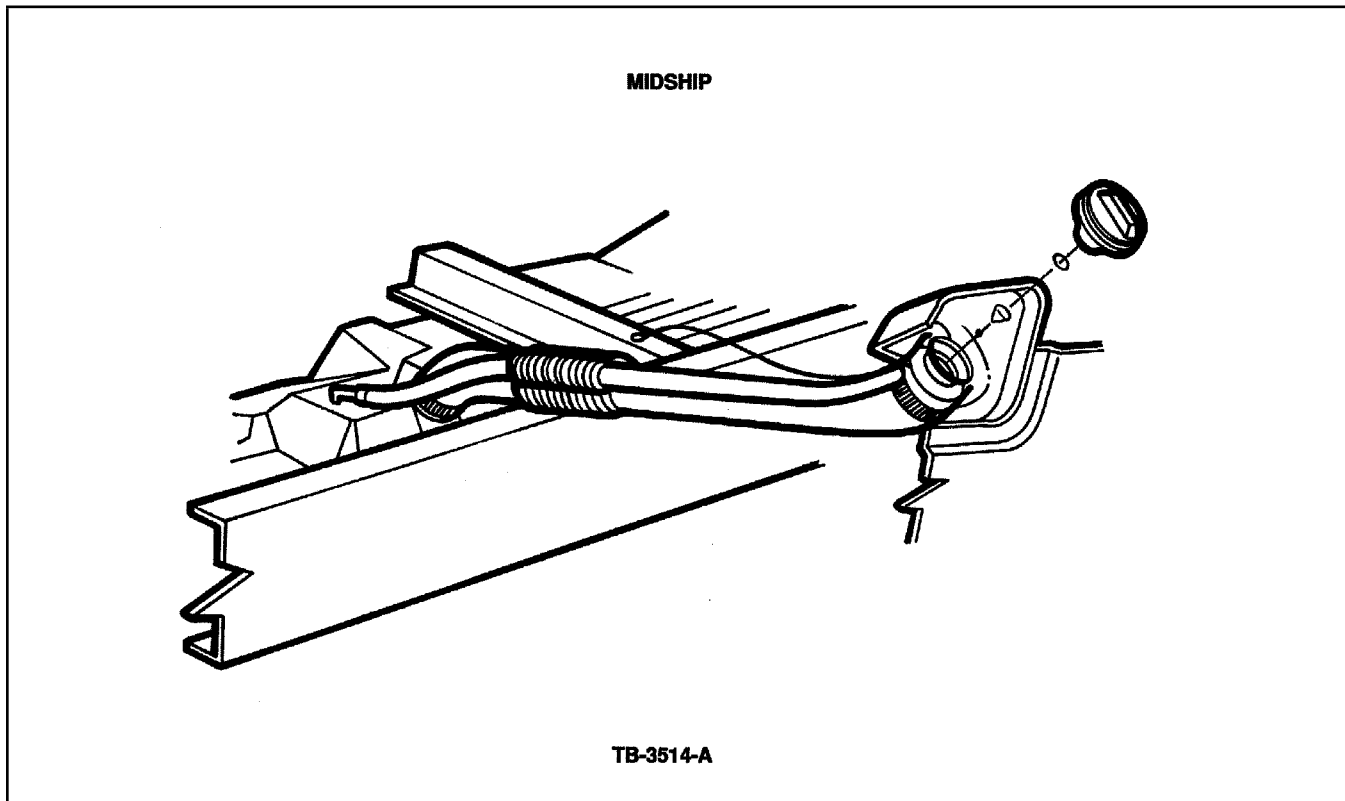

Figure 1 - Article 94-14-11
- d. Tighten the fill hose clamp to $3.2 \text{ N}\cdot\text{m} \pm .5 \text{ N}\cdot\text{m}$ ($28.3 \pm 4.4 \text{ lb-in}$) and the vent hose clamp to $3.2 \text{ N}\cdot\text{m} \pm 5 \text{ N}\cdot\text{m}$ ($28.3 \pm 4.4 \text{ lb-in}$). Refer to Figures 1 and 2.